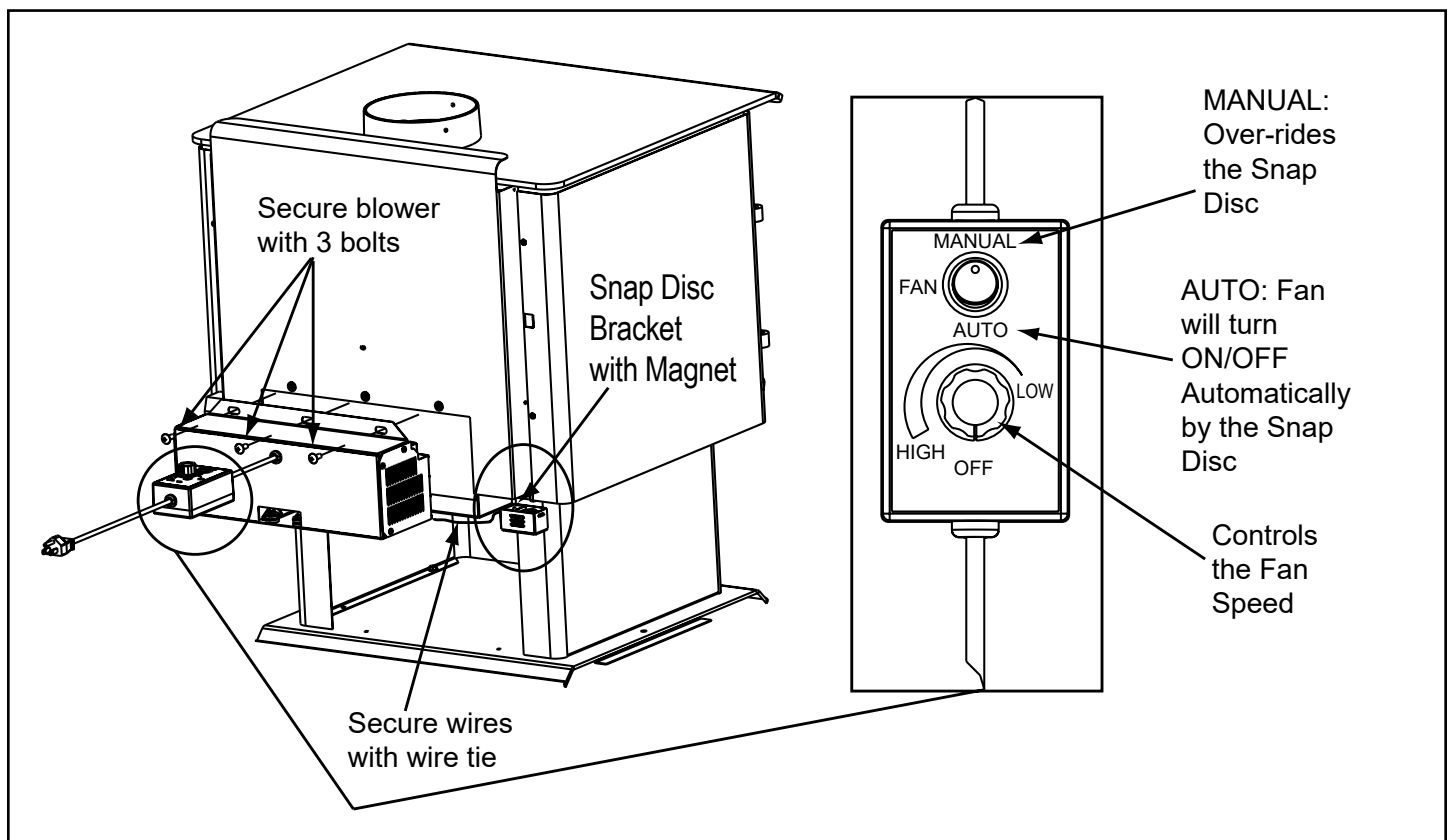

Figure 17.2
2. Align holes in mounting flange of blower with bolt holes in appliance. Blower should be positioned at bottom of rear outer skin as shown in **Figure 17.2**.